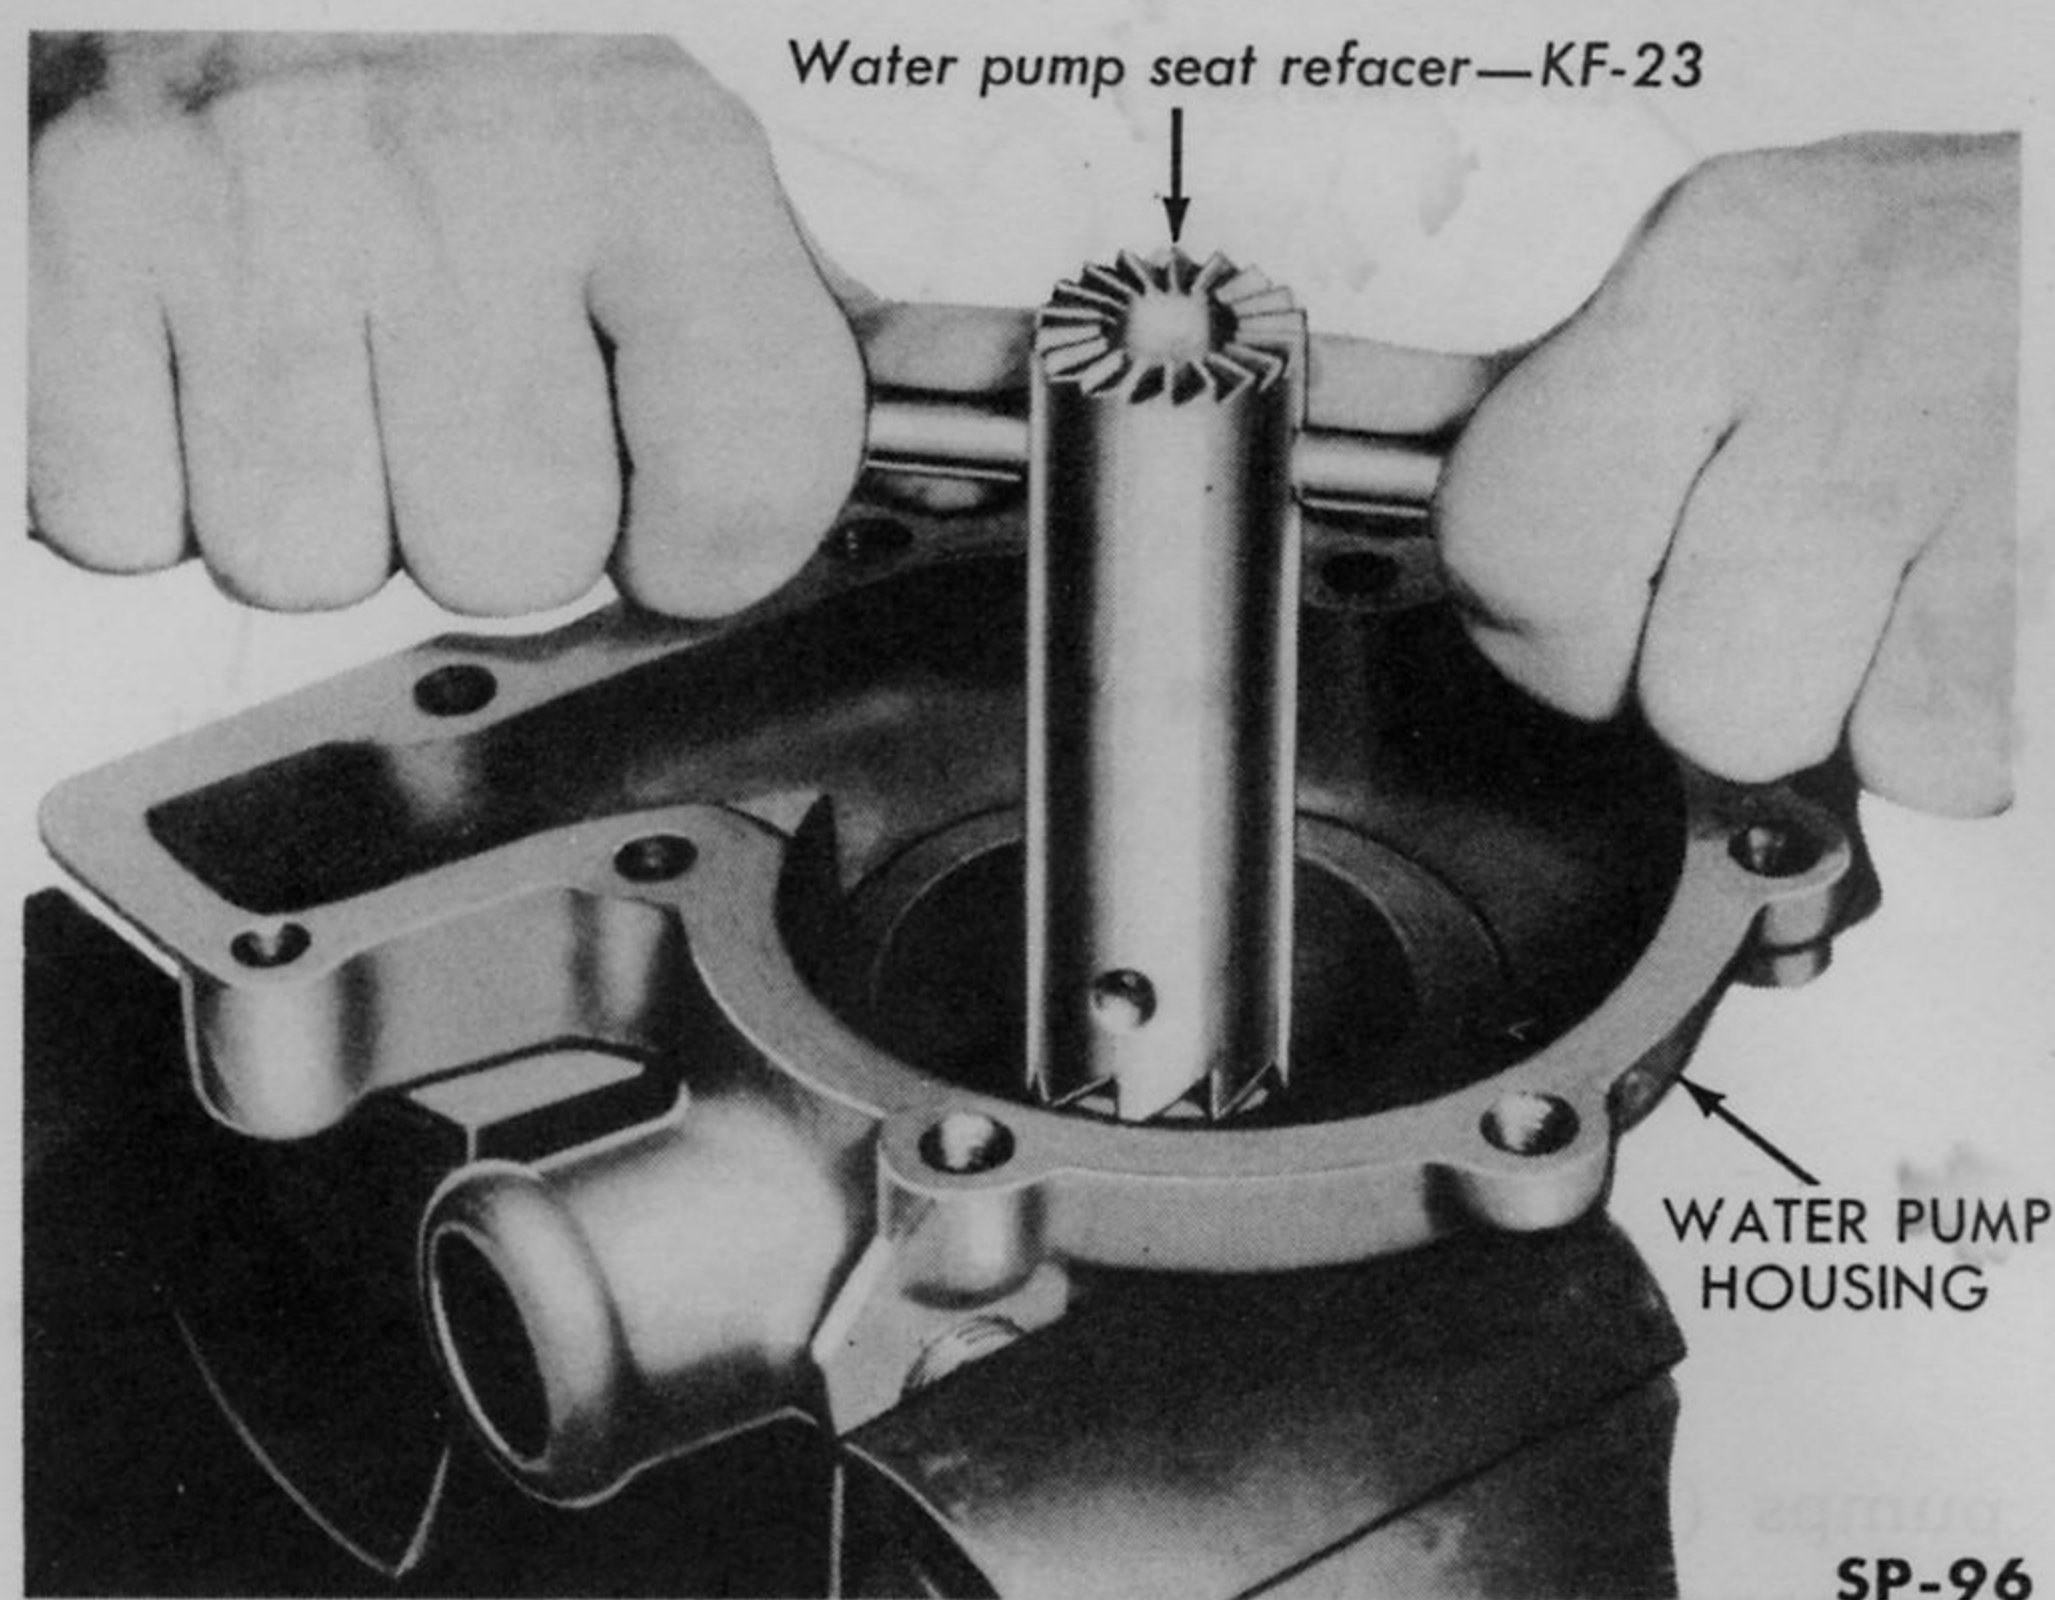

Fig. 161—Refacing Water Pump Seal Seat in Housing—Frazer
8. Inspect seal seat surface on Kaiser pump impeller, or in Frazer pump body. If Kaiser impeller hub seat surface is rough or scored, the hub should be replaced. Reface the Frazer seat, if rough, with Water Pump Seal Seat Refacer KF-23 as illustrated in Fig. 161. **CAUTION: Do not reface deeper than**